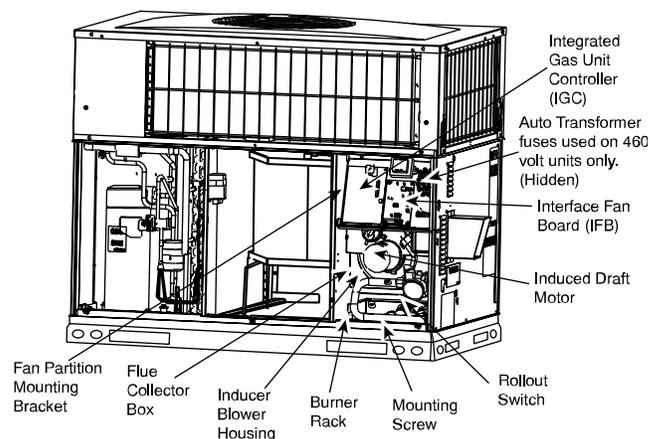
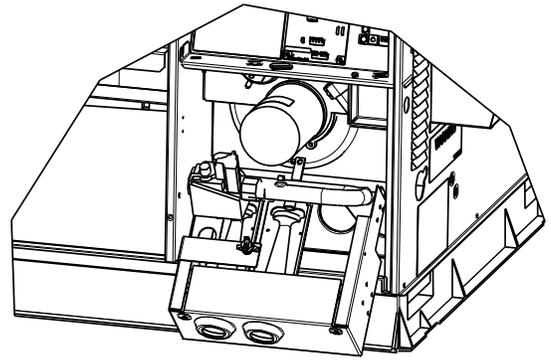

Fig. 41 – Blower Housing and Flue Collector Box
Fig. 44 – Burner Rack Removed (Standard and Standard Low NOx Models Only)
3. Slide the assembly out of the unit. (See Fig. 44). Clean the blower wheel. If additional cleaning is required, continue with Steps 4 and 5.
2. Remove the 11 screws holding the flue collector box cover (See Fig. 41) to the heat exchanger assembly. Inspect the heat exchangers.
Unit is equipped with a direct spark ignition 100 percent lockout system. Ignition module (IGC) is located in the control box (See Fig. 41). Module contains a self-diagnostic LED. During servicing, refer to label diagram or Table 14 in these instructions for LED interpretation.
5. Remove fan partition mounting bracket (2 screws located on the left side of control compartment on the fan partition panel). Slide bracket forward, bottom first, to remove. (See Fig. 41.)
7. Remove the mounting screw that attaches the burner rack to the unit base (See Fig. 41).
8. Partially slide the burner rack out of the unit (see Fig. 41 and Fig. 44). Remove ignitor and sensor wires at the burner assembly. Remove wires to rollout switch.
9. Slide the burner rack out of the unit (See Fig. 41 and Fig. 44).